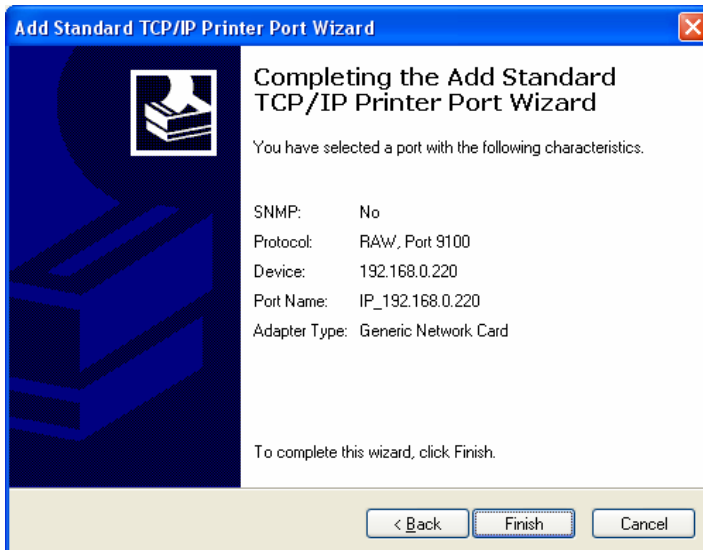

Figure 5.5.7
- 7) Click “Finish” button to end the adding as shown in Figure 5.5.7;